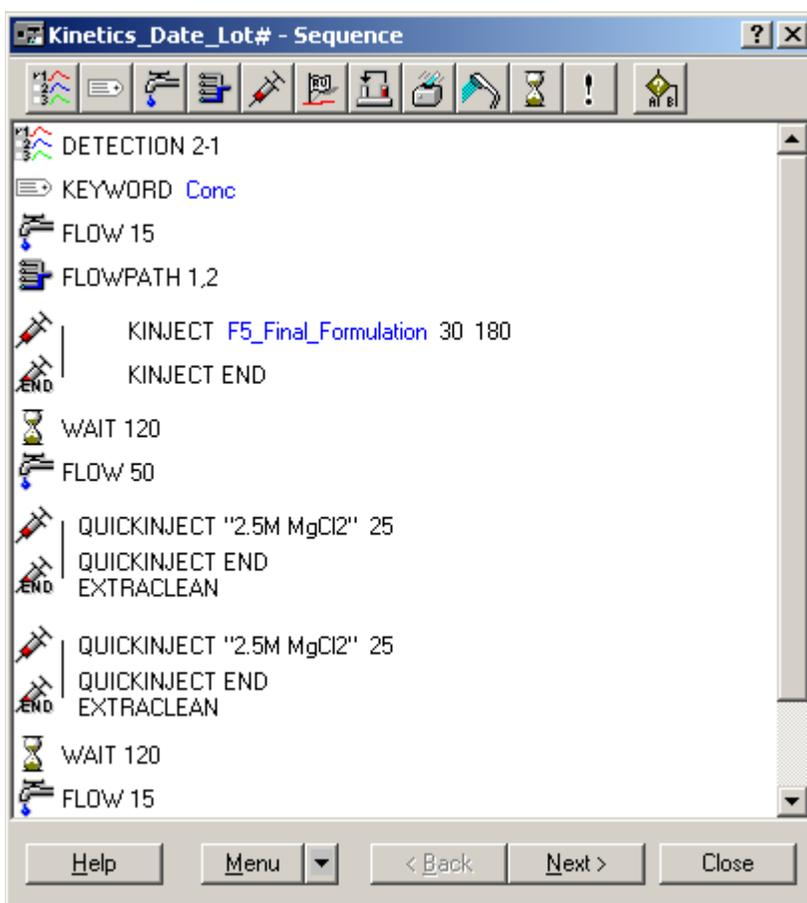

Figure 5.2
5.4 Sequence window shown figure 5.2 will open.
The parameters that need to be changed are 'DETECTION' (Step 1) and FLOWPATH (Step 4). In the example shown in fig 5.2, 'DETECTION' is selected as 2-1 and 'FLOWPATH' as 1, 2. (Flow cells 1 and 2 in which 1 is serving as the control).